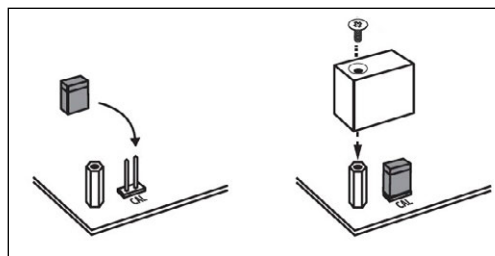

Figure 4-1. Closing the CAL Jumper
1. Short the CAL jumper to restrict access to setup mode. (Figure 4-1 on page 30)
NOTE: CAL jumper must be in place to prevent access to Setup mode at startup (Figure 4-1 on page 30).